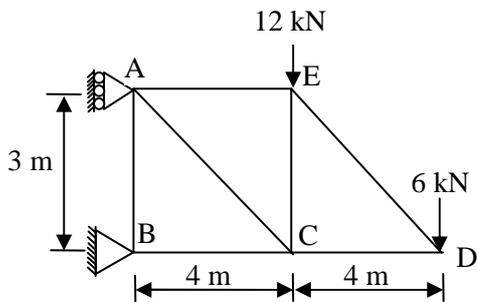

Fig. 6 Que 3 (c)
- (c) Calculate member forces in a plane truss loaded as shown in **fig. 6**, using either method of joint or method of section. Tabulate member forces showing magnitude and nature. **07**